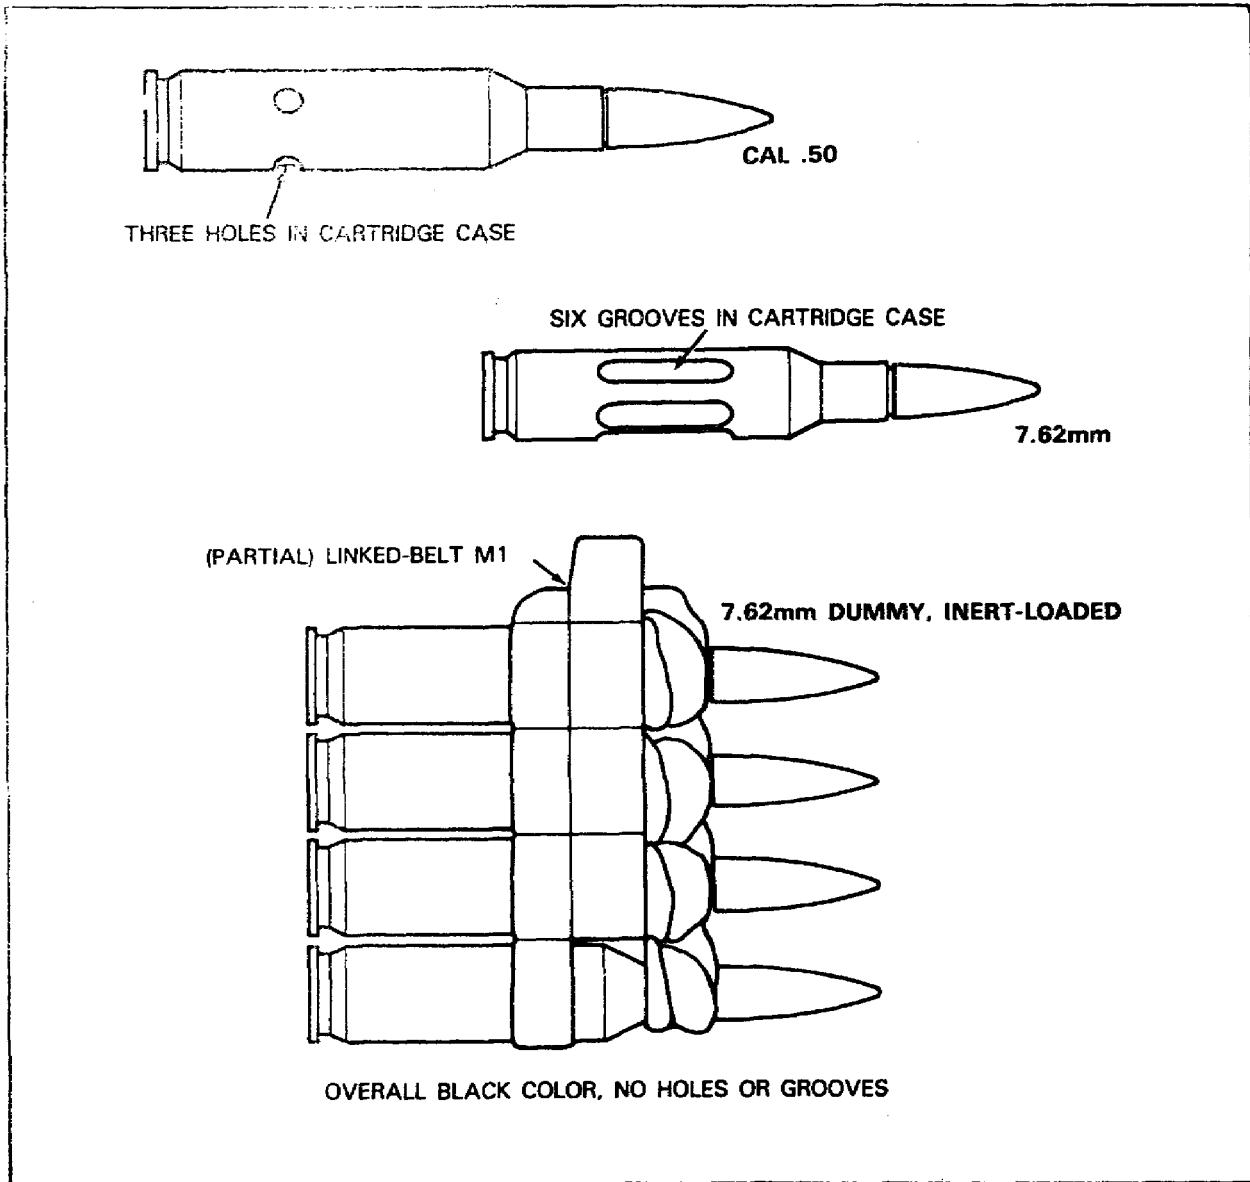

Figure 6. Identification of Dummy Cartridges.
*Dummy.* The dummy cartridge is used for practice in loading weapons and testing weapon functions. These cartridges are completely inert. A dummy cartridge is easily identified by the six grooves in its cartridge case (7.62mm and 5.56mm) or the three holes drilled in its cartridge case (caliber .45 and caliber .50). See Figure 6. Dummy cartridges for testing weapon functions are called dummy, inert-loaded, because they are filled with a simulated propellant to make them the same weight as a service cartridge. They are identified by their overall black finish; they have no grooves or holes.